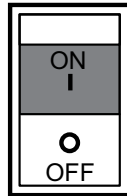

Figure 37. Circuit Breaker ON (GFCI Test)
2. Place the main circuit breaker (Figure 37) in the **ON** position.